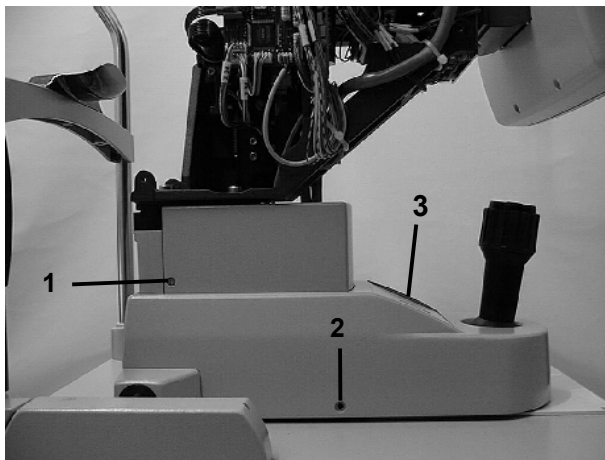

Fig 26a
- Remove two screws ((1) Fig. 26a) and two screws ((2) Fig. 26a). Remove both covers. Remove cover ((3) Fig. 26a).